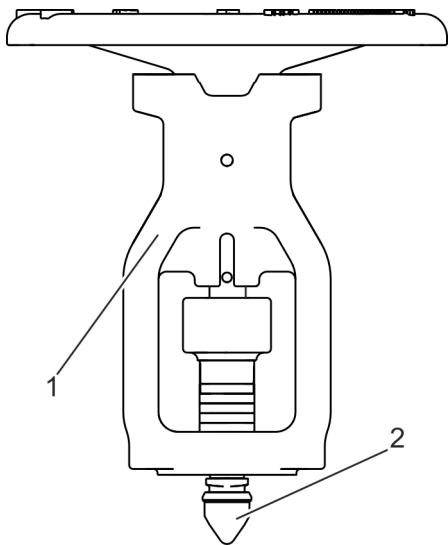

Fig. 43: Taking off the bonnet
14. Detach the bonnet (Fig. 43/1) with mounted gland follower flange and stem, from the body.
15. Unscrew the stem (Fig. 43/2) from the threaded bush on the handwheel.